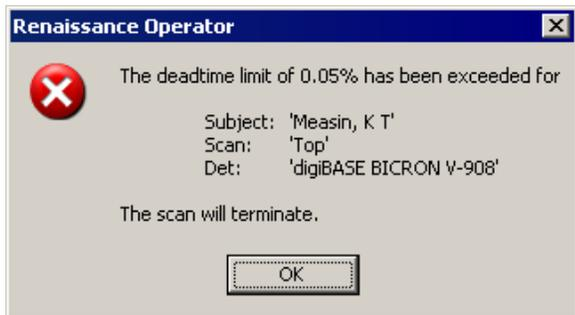
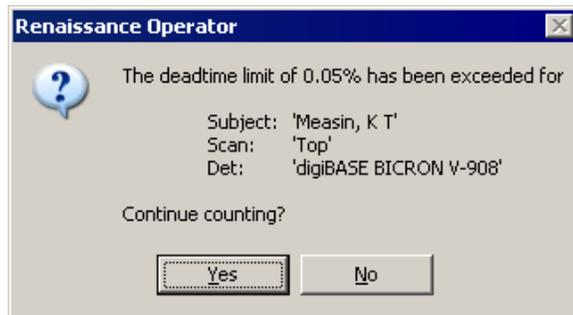

Figure 4. Count Terminated Due to High Dead Time.
Figure 5. Continue or Terminate?
- 8) A **Maximum Dead Time** alarm can be set in the Supervisor program, with the choice of either (a) automatically terminating the count or (b) giving the operator the choice of continuing or terminating the count. If this alarm has been set and the dead-time threshold is exceeded, a pop-up message will either inform you that the count has been terminated (Fig. 4) or give you the choice of continuing or terminating (Fig. 5).